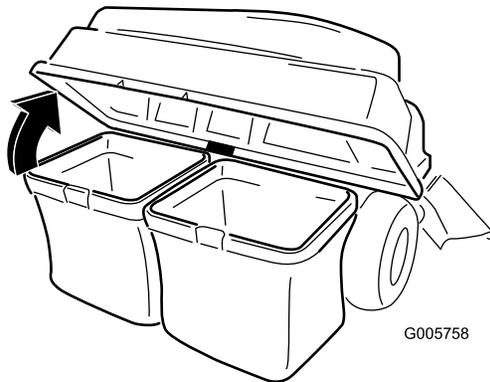

Figure 27
3. Open (raise) the bagger top (Figure 27).